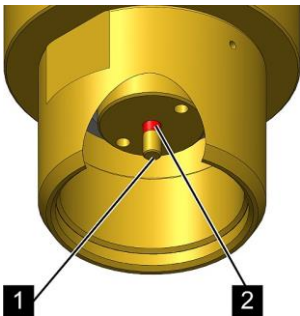

Fig. 85: Release pin
During test releases, do not reach into the area around the release pin (Fig. 85/1).
5. ► Check whether the red marking (Fig. 85/2) is visible on the release pin (Fig. 85/1).